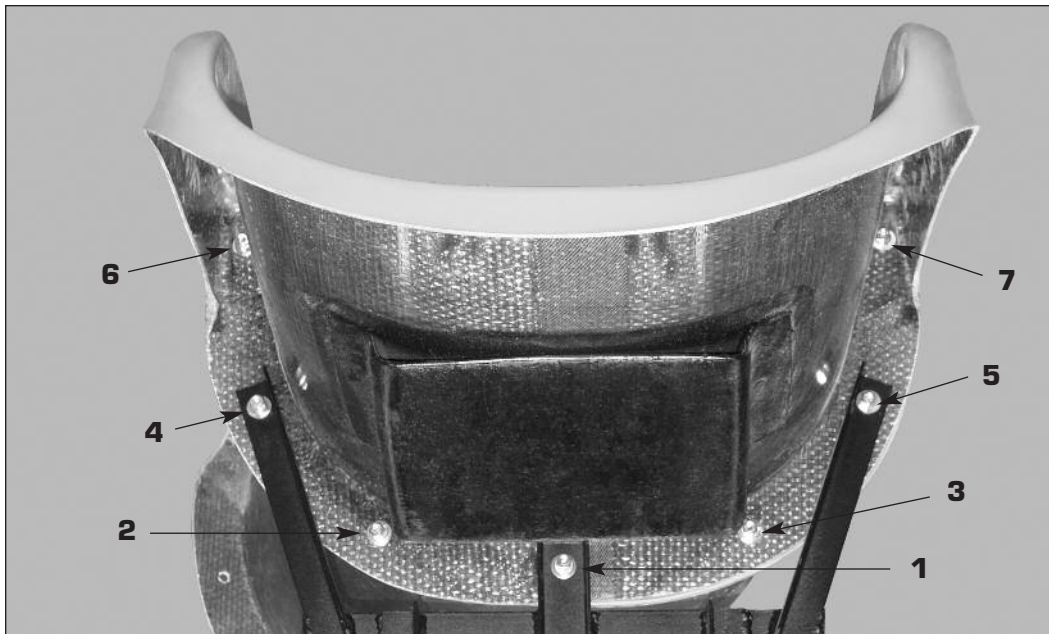

Fig. 3
- Anchor supports attach to the down slope side of the flange. (Fig. 3)
- Insert and hand tighten all seven flange bolts. Then, utilizing a torque wrench, tighten each nut to approximately half of the maximum 25 ft. lbs. Tighten the bolts in an alternating fashion working from left to right starting with the center bolt, working your way up the flange (Fig. 3). Repeat this same tightening process until the specified 25 ft lbs is reached on each bolt. Do not over tighten. Using greater force may fracture the fiberglass. Tightening the bolts in this sequence is necessary to compress the gasket evenly.